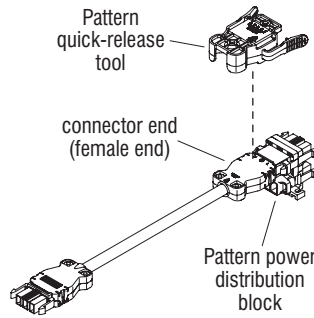

Figure 1
1. Snap the Pattern quick-release tool over the female end of the power module or power jumper connector end attached to the Pattern power distribution block (Figure 1).